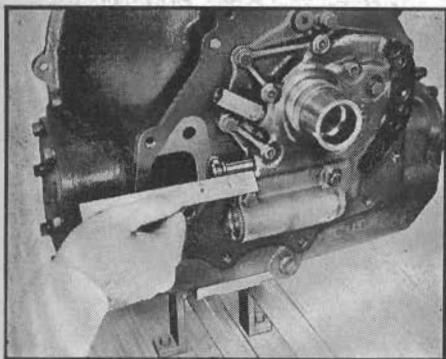

Fig. 69 Setting manual valve in reverse position. 1950-59
2. Set manual valve so end of valve protrudes 1½" from face of valve body, Fig. 69. This places valve in reverse position.